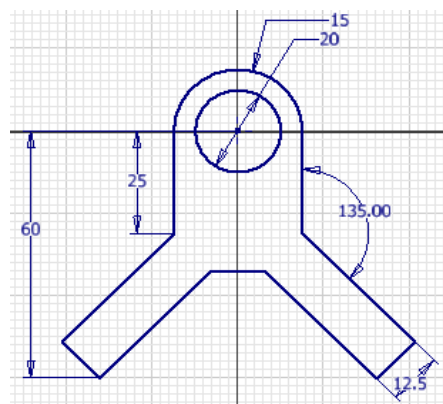

Figure 3-66 The final dimensioned sketch for Tutorial 4
1. Choose **Dimension** from the **Constrain** panel of the **Sketch** tab and select the circle. Place the diameter dimension below the arc dimension. Enter **20** in the **Edit Dimension** edit box and then press ENTER. This completes the sketch for Tutorial 4. The final dimensioned sketch is shown in Figure 3-66.